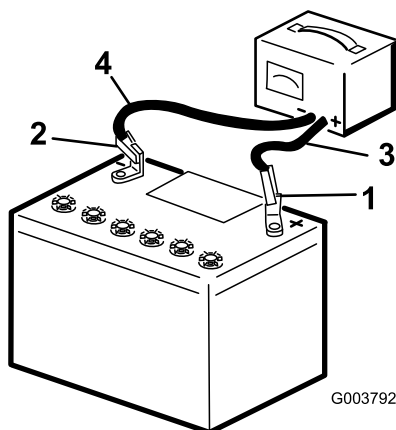

Figure 79
- When the battery is fully charged, unplug the charger from the electrical source, then disconnect the charger leads from the battery posts (Figure 79).
- Connect the negative lead of the battery charger to the negative-battery post (Figure 79).